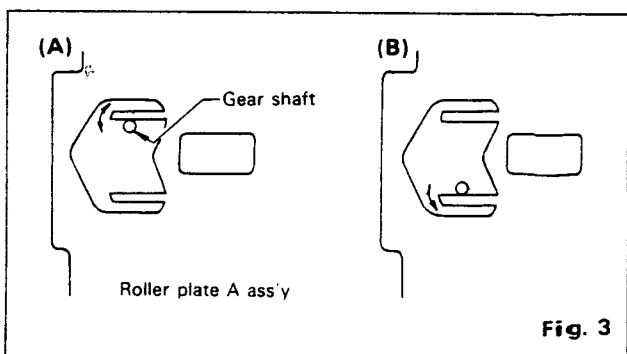

Fig. 3
If any abnormal sound is heard during PLAY operation, adjust gear engagement as follows. First identify the gear causing the abnormal sound. Then, adjust projection of the roller plate A ass'y by bending it in an appropriate direction as shown in Fig. 3; (A) when the FWD gear causes abnormal sound; (B) when the REV gear causes abnormal sound.